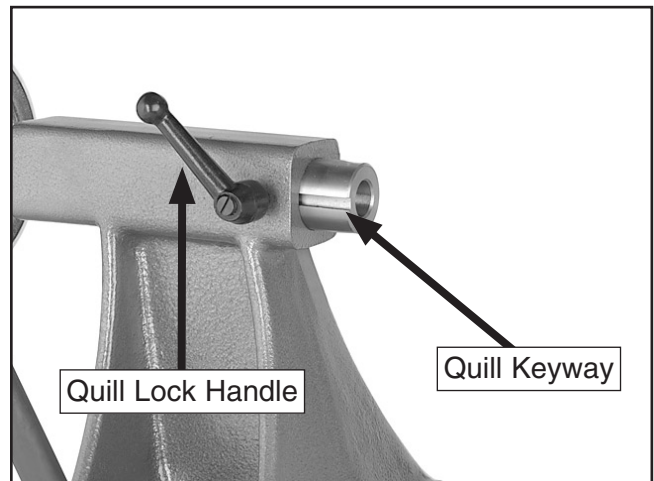

Figure 25. Quill lock handle aligned with quill keyway.
5. Make sure the center of the quill lock handle is aligned with the quill keyway (see **Figure 25**) to ensure that the tailstock center and quill will not freely rotate under load.